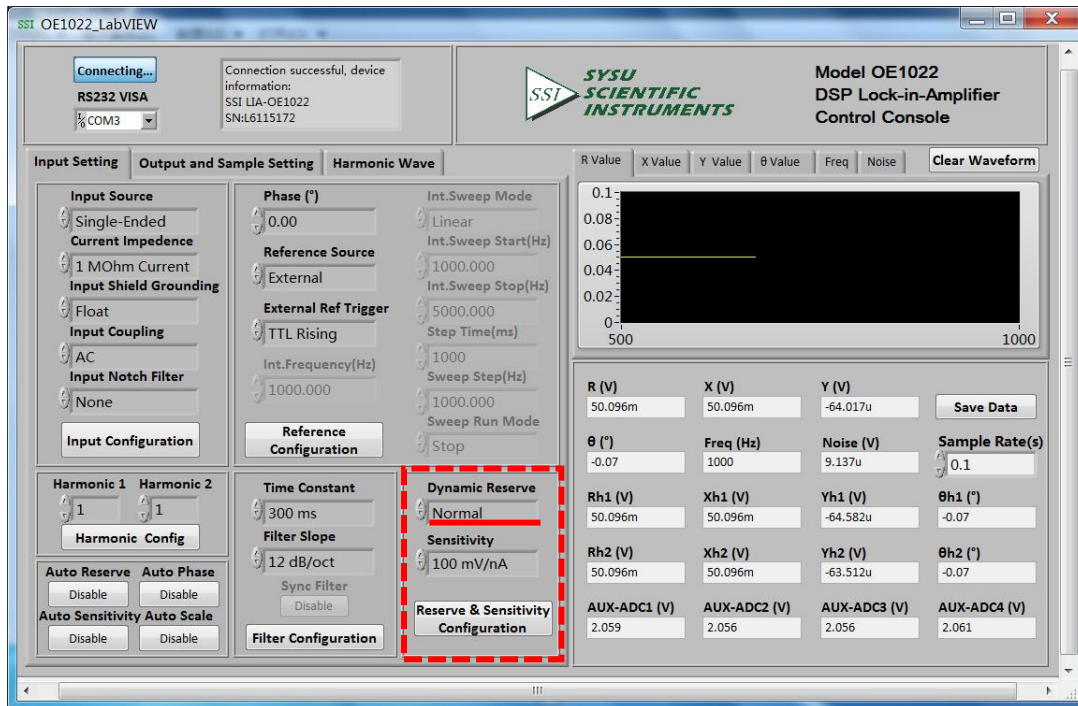
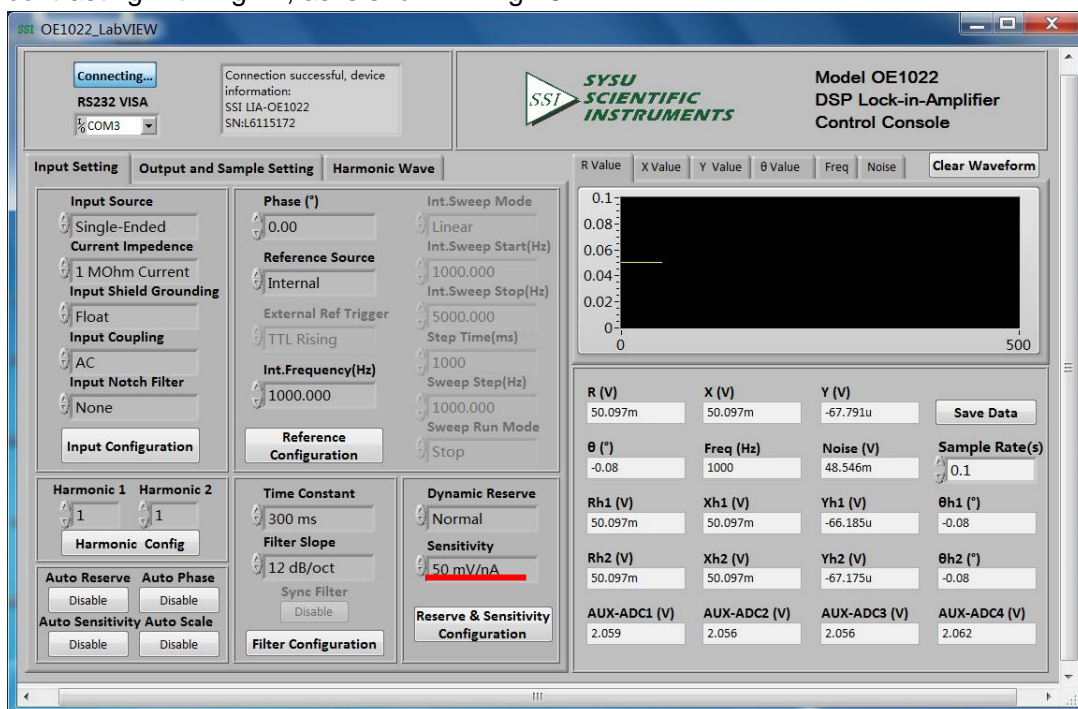

Fig.77 Reserve & Sensitivity Configuration
Fig.78 Auto Sensitivity Configuration
4. Choose these two options in "Reserve & Sensitivity Configuration", including "Dynamic Reserve" and "Sensitivity" with other options in default, as is shown in Fig.77. At last,
Use “Auto Sensitivity” to set sensitivity. Click the button **Disable** in Auto Sensitivity option. Then this button displays “Processing...” This means the OE1022 is executing auto sensitivity function. And after finishing this function, this button will reset to the original status **Disable**. Now the “Dynamic Reserve” and “Sensitivity” options will update to the values returned by OE1022. At this time, the “Sensitivity” option change to a suitable one contrasting with Fig.77, as is shown in Fig.78.